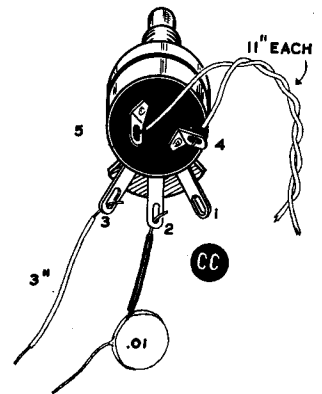

Figure 13
(✓) Prepare the volume control CC as shown in Figure 13. Slip sleeving over one lead of a .01  $\mu$ fd disc condenser and connect this lead to CC2 (S) (1). Do not cut away any of the leads.